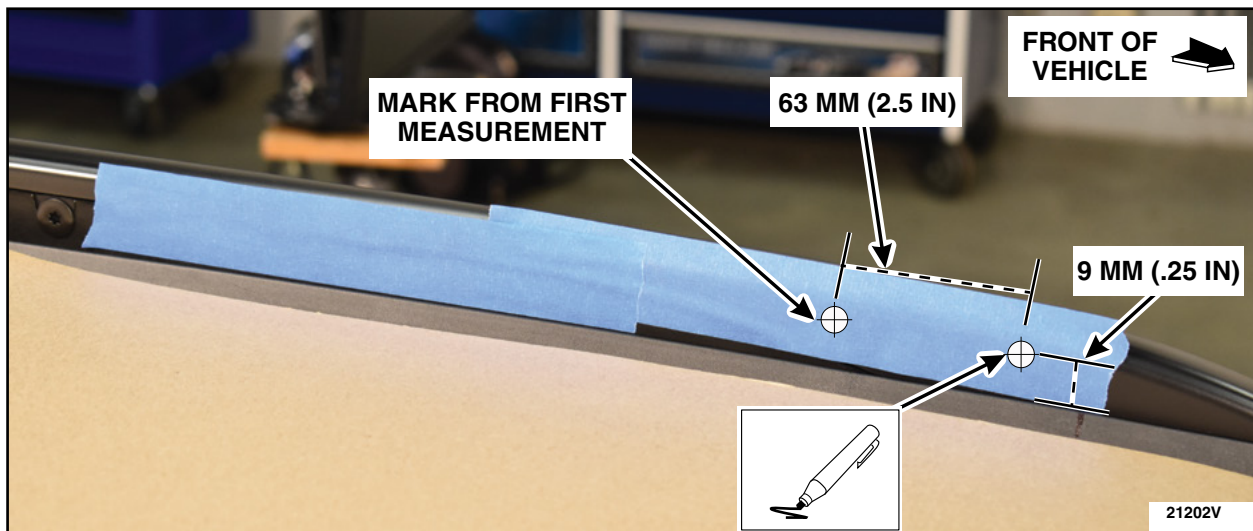

FIGURE 19
8. From the first mark, measure 63 mm (2.5 in) towards the front of the vehicle and up 9 mm (.25 in) from the top of the roof rack base. Mark the measurement on the tape. See Figure 19.